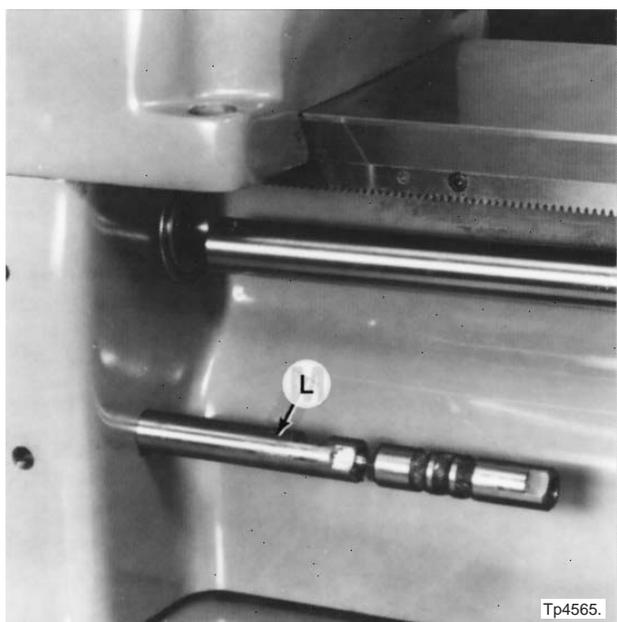

Figure 6.19 - Stop Rod Extension Removal
40. Remove stop rod extension "L", Figure 6.19 .
12. Replace stop rod extension "L", Figure 6.19 .